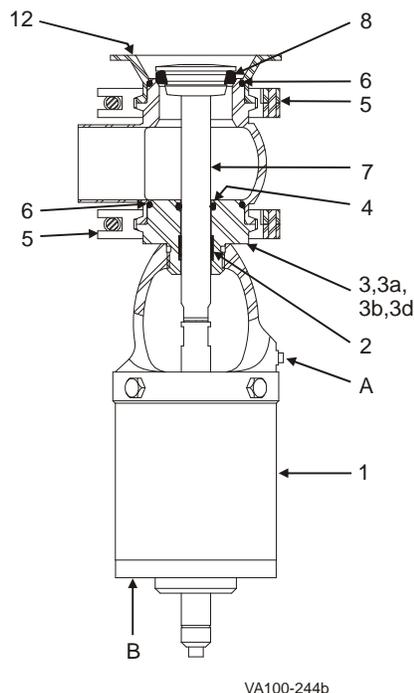

Figure 18: W64/W84 Tank Outlet Valve
3. Remove the body/tank flange clamp (Figure 18, item 5) and remove the valve from the tank flange.
4. Using 5/8-inch wrench flats on the stem, unscrew and remove the valve stem (item 7).
5. Replace the seat ring (item 8) as needed. See "Seat Replacement" on page 37.
6. Remove the lower body O-ring (item 6); replace as needed.
7. Remove the upper body clamp (item 5) and upper body from the adapter (item 3).
8. Unscrew the adapter (item 3) from the yoke.
9. Remove the upper body O-ring (item 6) and stem O-ring (item 4); replace as needed.
10. Inspect and replace the PTFE bearing (item 2) as needed.
5. Using 5/8-inch wrench flats on the stem, unscrew and remove the valve stem (item 7).